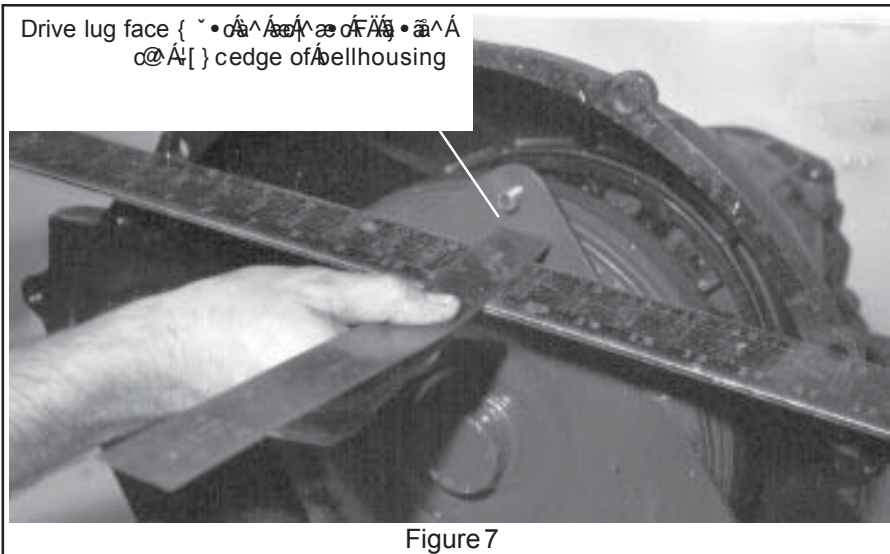

Figure 7
STEP 7. Remove dipstick and tube assembly. Remove torque converter, cover pan bolts and remove converter cover pan (see Fig. 6). Remove flexplate to converter bolts (see Fig. 7). Use starter motor to "bump" each bolt into position.
converter to engage input shaft, stator shaft and oil pump rotors. Place a straightedge across the face of the transmission bellhousing. Measure the distance from the face of the bellhousing to the base of the torque converter drive stud. (See Fig. 7) The base of the stud must be at least **one inch**